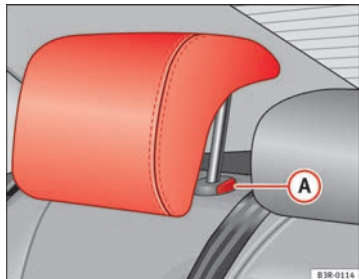

Fig. 5 Outer rear seats:
- Press button **A** ⇒ fig. 5 and lower the head restraint.
- Press button **A** ⇒ fig. 5 and pull out the head restraint.